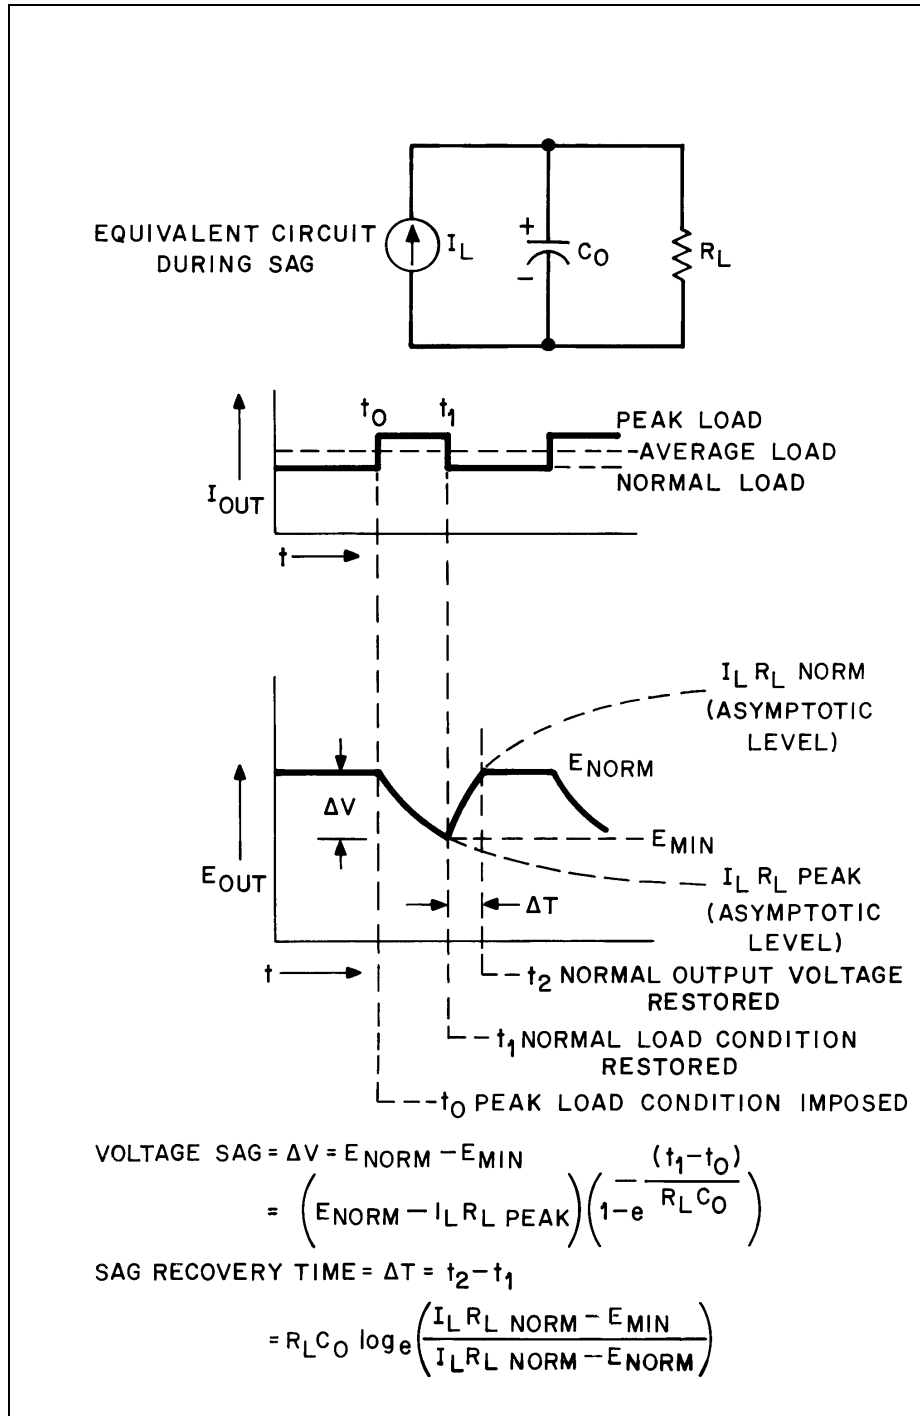

Figure 63. Short-term Overload Equivalent Circuit and Output Voltage
As for the second category, if it is desired to meet a duty cycle requirement similar to that illustrated in Figure 63 *while retaining the full value of regulated output voltage during peak load conditions*, then a power supply must be selected which has a current rating equal to or greater than the *peak* load requirement. However, if the peak load condition is of relatively short duration, then the stored energy in the power supply output capacitor may prevent an excessive output voltage sag.
Thus for peak loads of either category (1) or (2), it is of interest to know how much the output voltage will drop for a *peak load condition in excess of the power supply current rating*, and how long it will take for the supply to recover to its normal output voltage following the removal of the overload. Figure 63 illustrates the equivalent circuit and output voltage waveform which are characteristic of a power supply experiencing a short term overload. When the overload condition is first imposed, the power supply goes into the current limit mode and is, therefore, equivalent to a constant current generator I_L feeding the output capacitor C_o (already charged to E_{NORM}) in parallel with the lowered value of load resistance $R_{L\ PEAK}$. Thus the capacitor begins discharging exponentially toward the final output voltage value which would result if the overload condition were retained, namely $I_L R_{L\ PEAK}$. The amount of voltage sag ΔV depends upon the output time constant and the duration of the overload peak load condition; the equation for this voltage sag is given in Figure 63. When the peak load condition is removed, R_L is restored to its normal value and the supply continues in the current limiting mode, charging the output capacitor on another exponential curve. This time the asymptotic level approached by the exponential curve is $I_L R_{L\ NORM}$. However, this charging action stops when the voltage level has risen to the normal level, and the regulator changes from the current limit mode to the normal constant voltage mode. Figure 63 also gives the equation for the time required for this voltage recovery following the removal of the